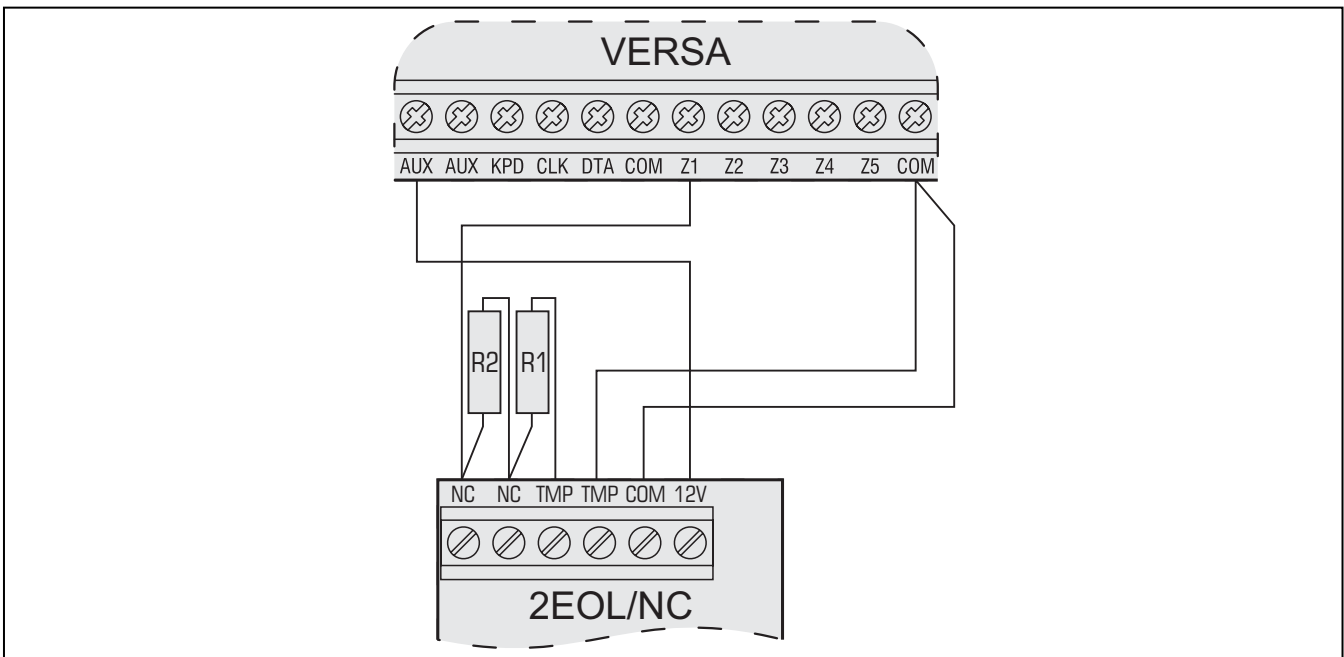

Fig. 24. An example of connecting NC type detector in 2EOL configuration to the control panel (NO type detector is to be connected in the same way).
- on the control panel mainboard – value of the R1, R2 resistors is programmed individually for 2EOL configuration (see Fig. 24). Value of the resistor for EOL configuration is the sum of values programmed as R1 and R2.
- value of the R1, R2 resistors for 2EOL configuration (see Fig. 24). Value of the resistor for EOL configuration is the sum of values programmed as R1 and R2.